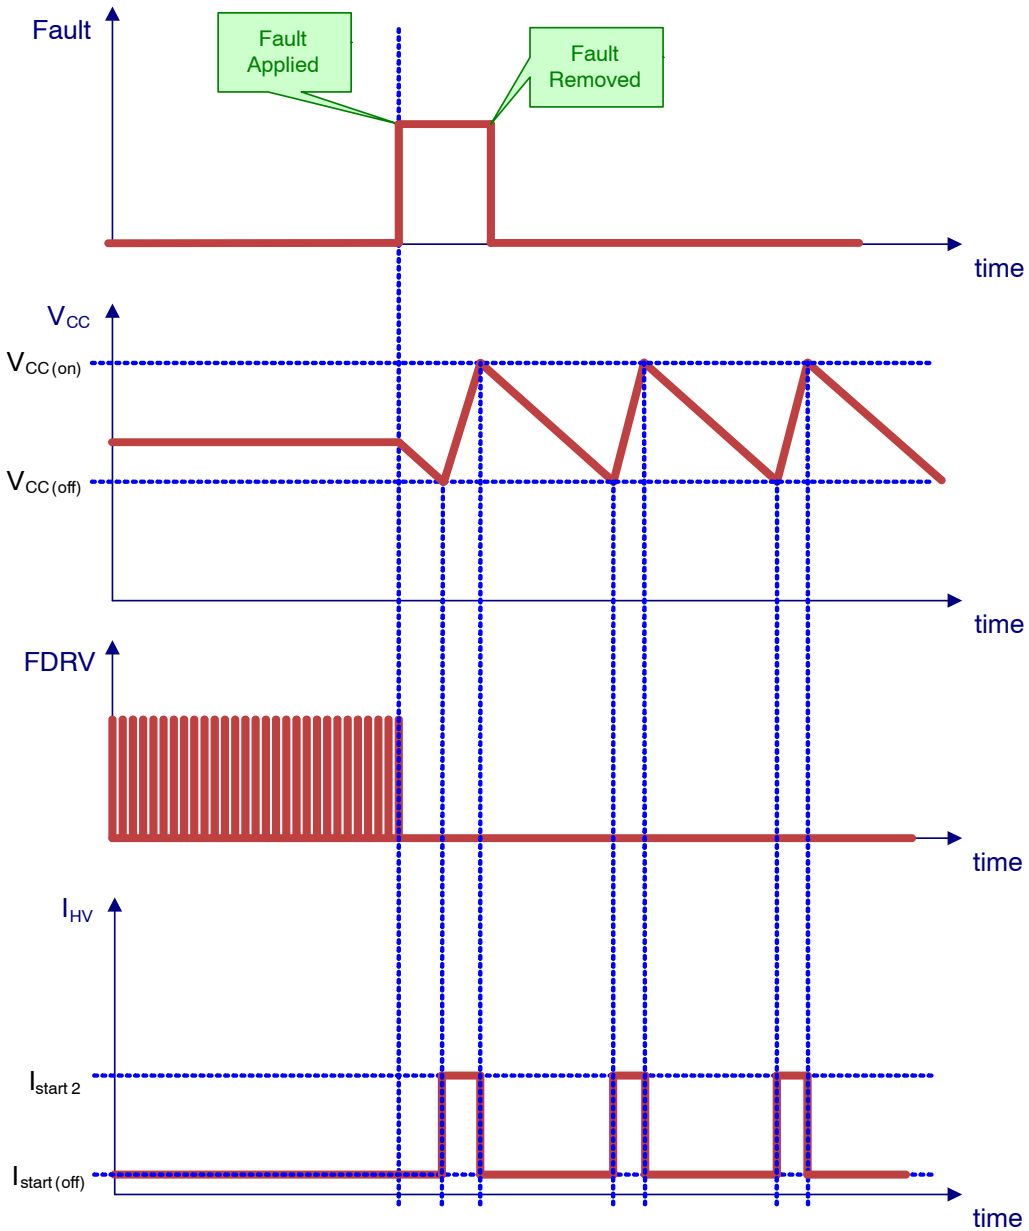
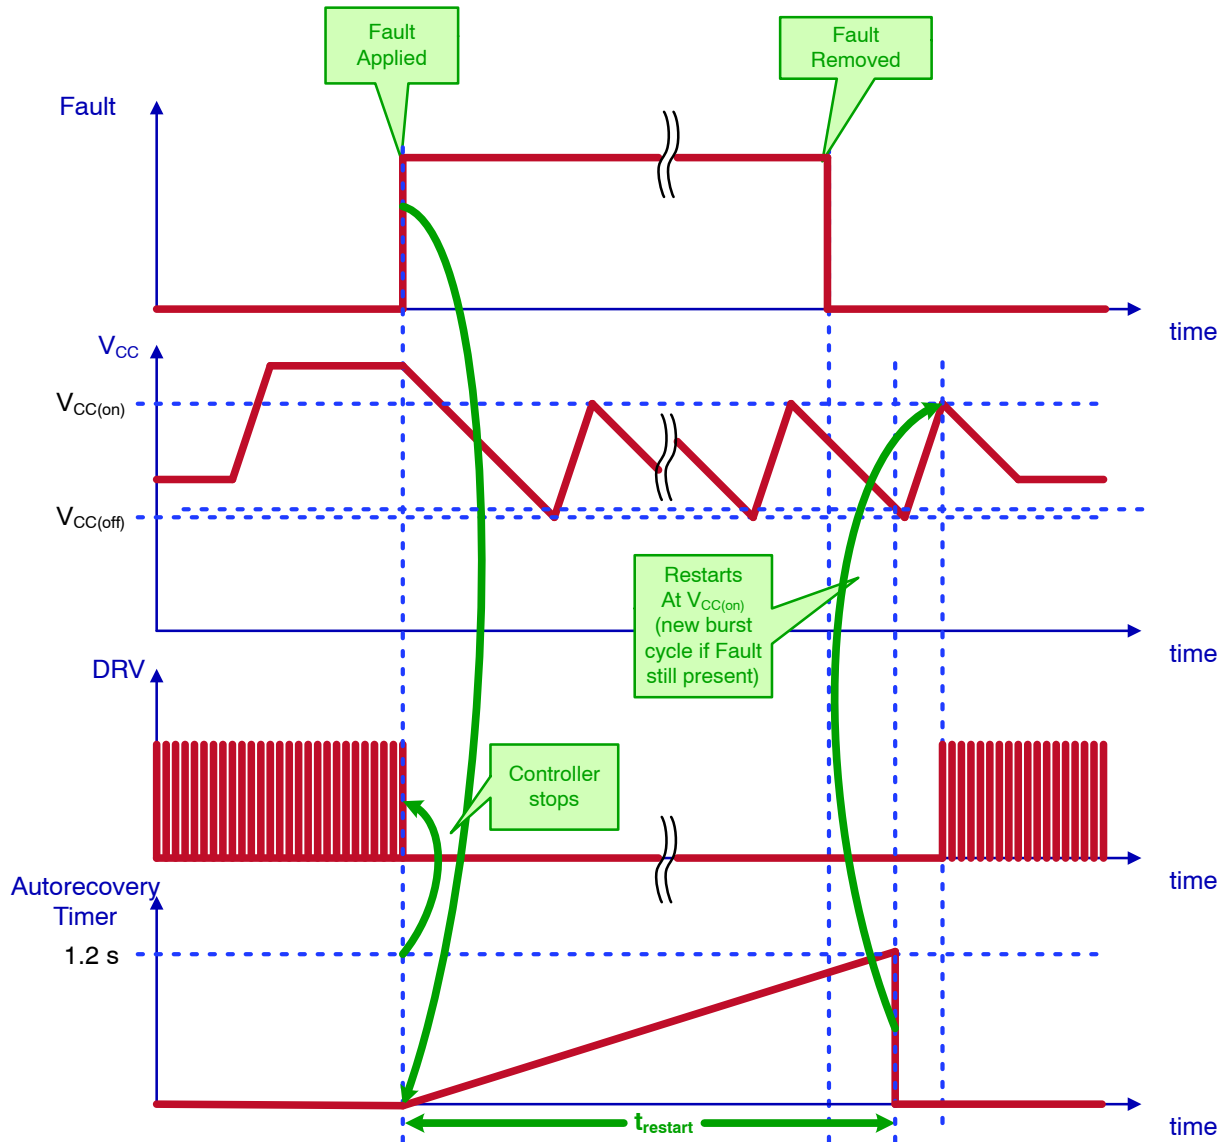

Figure 16. Operation During Latching Fault
Figure 18. Operation During Auto-Recovery Fault
external latch input. When the EM1000 detects a latching fault, the driver is immediately disabled. The operation during a latching fault is identical to that of a non-latching fault except the controller will not attempt to restart at the next $V_{CC(on)}$, even if the fault is removed. In order to clear the latch and resume normal operation, V_{CC} must first be allowed to drop below $V_{CC(reset)}$ or a line removal event must be detected. This operation is shown in Figure 16.
current source turns on and off to maintain V_{CC} between $V_{CC(off)}$ and $V_{CC(on)}$. Once the auto-recovery timer expires, the controller will attempt to start normally at the next $V_{CC(on)}$ provided V_{HV} is above $V_{BO(start)}$. This operation is shown in Figure 18.
Once the controller is latched, it follows the behavior of a latching fault according to Figure 16 and is only reset if V_{CC} is reduced to $V_{CC(reset)}$, or X2 discharge is activated. In the typical application these conditions occur only if the ac voltage is removed from the system.
Latch versions latch off the controller after an overtemperature fault is detected according to Figure 16. In auto-recovery (AR) versions, the controller is re-enabled once the fault is removed such that V_{Fault} increases above $V_{Fault(OTP_out)}$, the auto-recovery timer expires, and V_{CC} reaches $V_{CC(on)}$ as shown in Figure 18.
An additional comparator on the V_{CC} pin monitors the V_{CC} voltage. If V_{CC} exceeds $V_{CC(OVP)}$, the gate drive is disabled and the EM1000 follows the operation of a latching fault (see Figure 16).